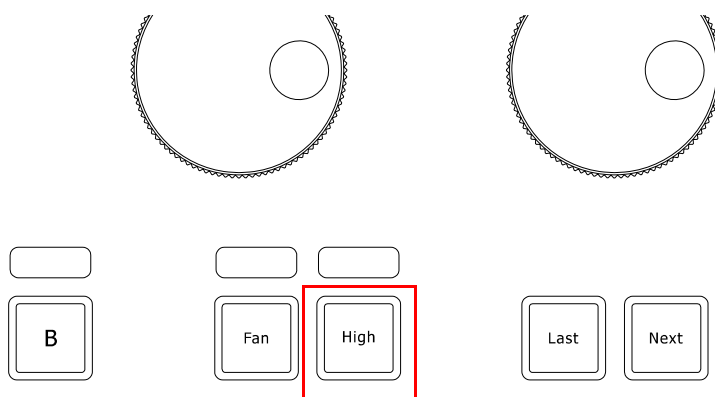

Figure 155: Programming Keys - Highlight Button
- 2) Press the [HIGHLIGHT] key (Figure 155). The lights will keep their position on stage, but other attributes may change to the highlight value set in the library.